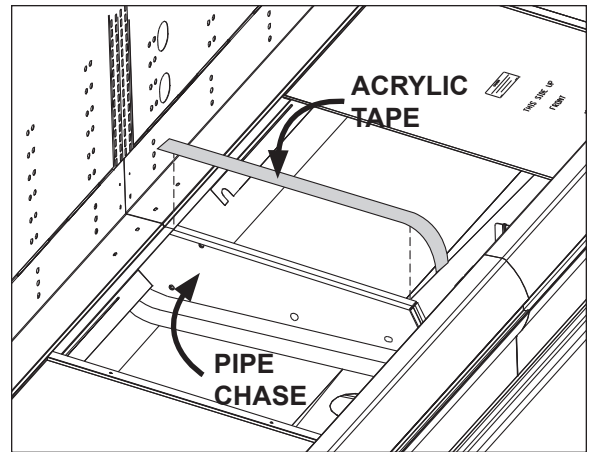

Fig. 4 Sealing the pipe chase
1. Seal the interior case-to-case joints with caulk (supplied), then apply acrylic tape (supplied) over the pipe-chase seam (Fig. 4). The tape acts as a watershed preventing water from penetrating the case joint.